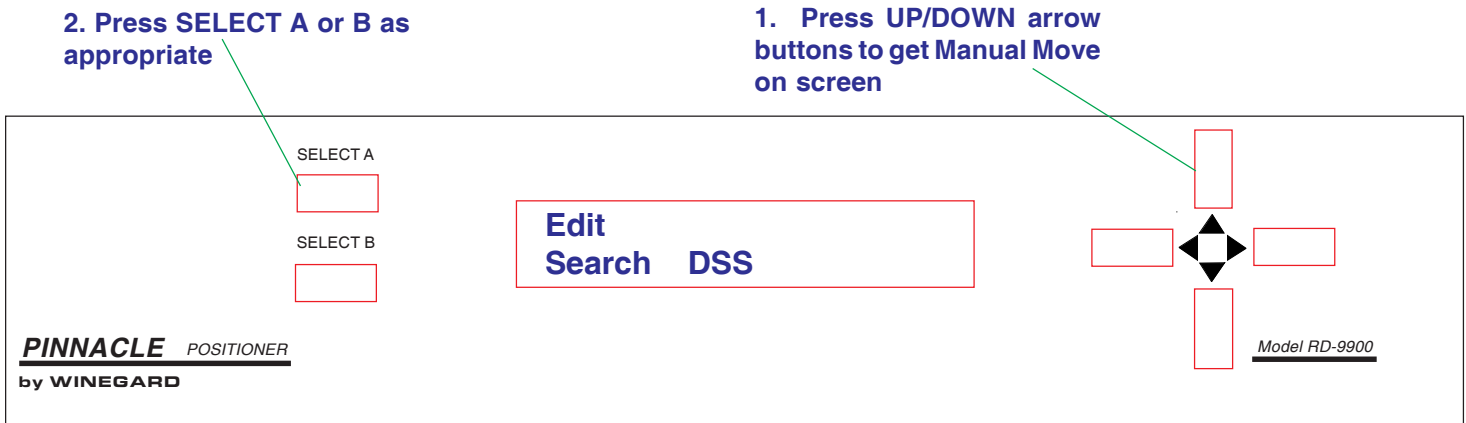

Figure 29
1. Press [UP/DOWN] arrow until **Edit** is displayed on positioner. See Figure 29.
2. Press [SELECT A or B] **Edit**, see Figure 29.